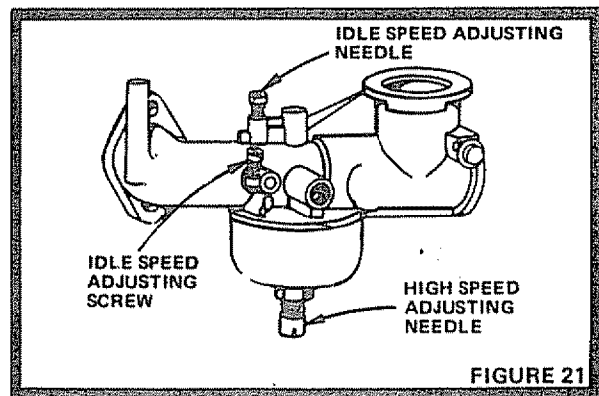

FIGURE 21
- Turn High Speed Adjusting Needle clockwise, closing finger tight ONLY, and then turn counterclockwise 1 - 1/2 turns (Fig. 21).
| HARD TO START Choked improperly, flooded Engine Clogged Fuel Tank Dirty Air Cleaner Spark Plug dirty or improper gap Defective Battery Defective Ignition or loose wiring Water in gasoline or old fuel Improper Carburetor adjustment | Place Throttle Control in "FAST" position (Fig. 13) and run starter several times to clear out gas Remove and clean Remove and clean (Fig. 19) Clean, adjust gap or replace (Fig. 20) Recharge or replace Check the wiring and Spark Plug Drain Fuel Tank and Carburetor, use fresh fuel and replace Spark Plug Make necessary adjustments (Fig. 21) |
| ENGINE MISSES OR LACKS POWER Engine overload Clogged Fuel Tank Partially plugged Air Cleaner Improper Carburetor adjustment Dirty Engine Air Screen Low oil level or dirty oil Spark Plug dirty, improper gap or wrong type Faulty ignition Poor compression Oil in gasoline | Shift to a lower gear (Fig. 12) or reduce load Remove and clean Remove and clean (Fig. 19) Make necessary adjustments (Fig. 21) Clean Air Screen (Fig. 15) Add or change oil (Fig. 15) Replace Spark Plug (Fig. 20) Check Spark Plug and for loose wires Major Engine overhaul Drain and refill Gas Tank and Carburetor |
| ENGINE OVERHEATS Dirty Air Screen Low oil level or dirty oil Dirty Engine Partially plugged Muffler Partially plugged Air Cleaner Stale fuel or improper Carburetor adjustment | Clean Air Screen (Fig. 15) Add or change oil (Fig. 15) Clean Engine Cooling Fins (Page 8) Remove and clean Muffler or replace Remove and clean (Fig. 19) Use fresh fuel and adjust Carburetor (Fig. 21) |